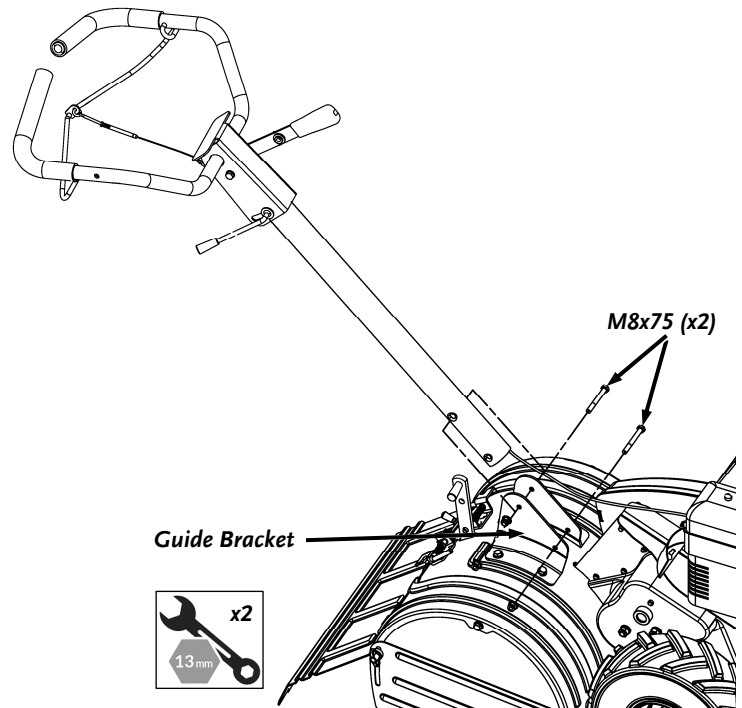

Figure 5
2. Align the holes in the operation handle shaft with the holes in the guide bracket and re-insert the M8x75 bolts and screw nuts to tighten. (See Figure 5)